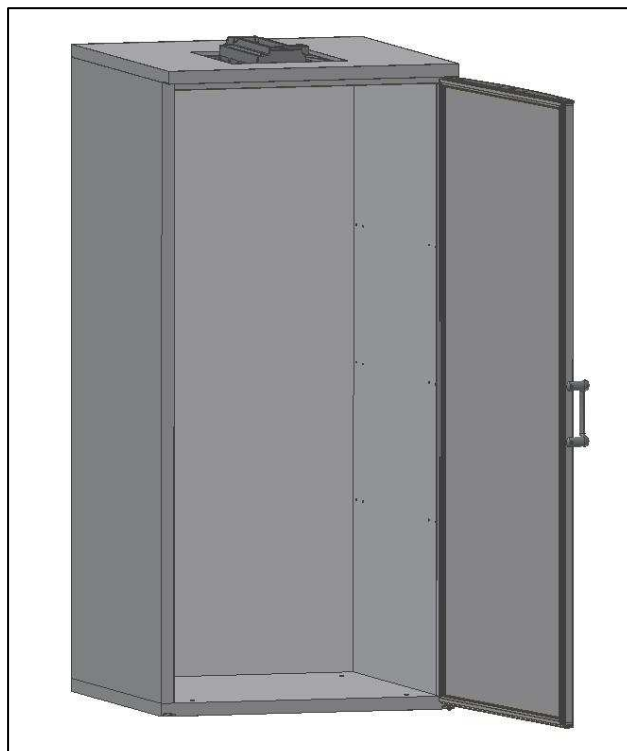

Fig. 9
- Fix the **door** to the bottom and to the top (Fig.9). Door with left or right opening.